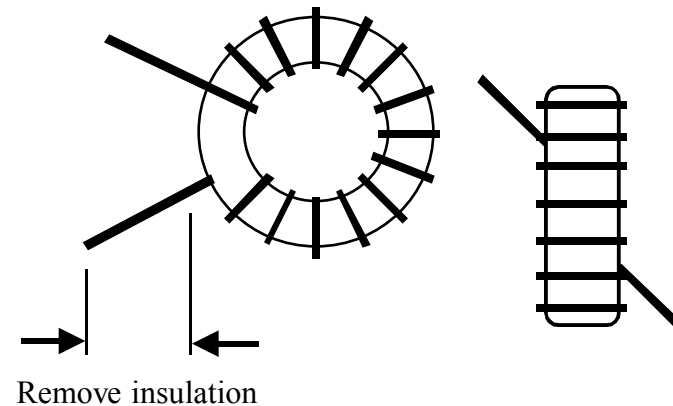

Figure 6-15
- Find RFC14's component outline on the RF board, near the front left-hand corner. Compare this component outline to Figure 6-15, which shows two views of a typical toroidal inductor. RFC14 will be mounted vertically as shown at the right side of the drawing, with one wire exiting at the core's upper left, and the other at the lower right. There are pads on the PC board in these two locations.
- To wind RFC14, cut a 9" (23 cm) length of #26 red enamel-coated wire, then "sew" the long end of the wire through the core exactly 10 times. *Each pass through the core counts as one turn.* The finished winding should look very similar to Figure 6-15, but with 10 turns rather than 14.
Strip and tin the leads of the toroid before you mount it on the board. As shown in Figure 6-15, you should remove the enamel from the leads up to about 1/8" (3 mm) from the core. You should see only bare wire (no insulation) on the side to be soldered.
Wind the first winding, 1-2, using 16 turns of red enamel wire (15", 38 cm). This winding must occupy 85% of the core, and will look very similar to Figure 6-15. Remember that each pass through the core counts as one turn.